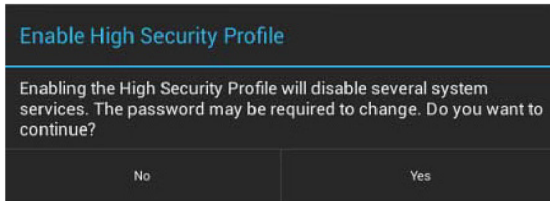

FIG. 96 Enable High Security Profile dialog
2. The panel will alert you to the fact that enabling the High Security profile will disable several system services, and that the password may need to be changed. Press **Yes** to proceed (FIG. 96): .